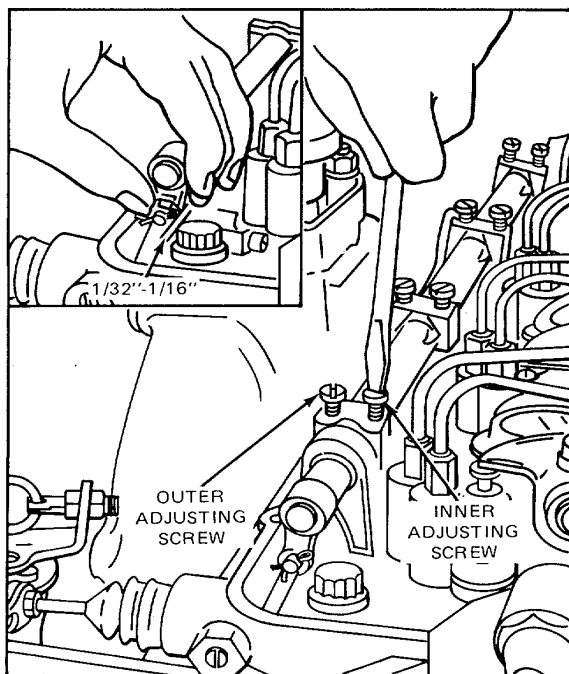

Figure 3. Adjusting Injector Rack Control Lever Adjusting Screws
5. Adjust the rear cylinder injector rack control lever adjusting screws (Fig. 3) until both screws are equal in height and-tight on the injector control tube.